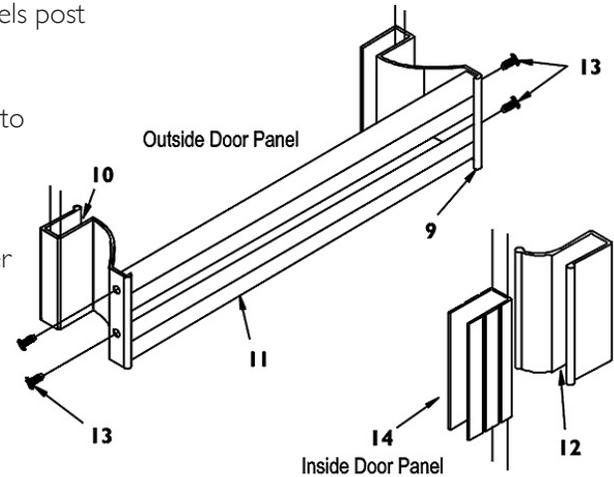

FIGURE 3
10. Cut center section of header (8) to length and assemble header using 135 degree clips (28) and 6 x 3/8" SMS (13). Cut header (8) to length and set in place over jambs, post and wall channel. Secure header to jamb and slider post with #6 x 3/8" screws (13) from INSIDE of shower. Secure 135 degree post (19) and wall channel to header with clip (23) using #6 x 3/8" (13) screws. Insert vertical seal vinyl into wall channels post and curb channels on both sides of panel.
11. Secure bumpers (4) with 6-32 x 1/2" screws (5). Raised portion of bumpers to outside at shower head side to inside at post. Center hole in jamb is slotted to allow jamb to be moved in our out to compensate for bowed glass.
12. To set slider glass in place, hold inside slider panel (16) inside of tub or shower pan. Insert rollers up into header and lower into place. Next, insert lower end of outside slider (17) in front of inside slider by pushing lower ends far enough in to allow clearance on inside edge of tub or pan. NOTE: Avoid roller bracket to roller bracket contact while lifting panel into place. The outside slider will close against the jamb opposite the shower head.
13. Place center guide (7) to center position on sill (6). Make sure the center guide is hooked into the slot position on sill, then snap center guide on sill.
14. Close panels and adjust to align the vertical edge of panels with jamb and post. Using a 1/4" box-end wrench, loosen the screws on the rollers, but don't remove completely. When screws are loose, adjust panel by sliding the screw in the slot. NOTE: when screws are loose be sure to support panel so it doesn't fall and break. Adjust inside slider as low as possible to reduce the gap between bottom of slider and sill taking care that the glass does not drag on the track or center guide. Adjust for bowed glass by using the slotted hole in the jamb. Secure bumpers to the jambs using 6-32 x 1/2" screw (5).
15. Set handle vinyl channel (14) in place over edge of outside glass panel (17) with bottom of vinyl in lie with bottom of bumper. Tap towel bar brackets (9 & 10) in place. Bracket with no pull should be to jamb side of slider opposite of shower head. Assemble towel bars (11) to bracket using #6 x 3/8" SMS (13). (See Figure 3)
16. Set handle to vinyl in place over edge of inside glass panel with bottom of vinyl in line with bottom of bumper on edge facing the wall jamb. Tap inside door pull (12) into place. NOTE: Large portion of pull to inside of slider.